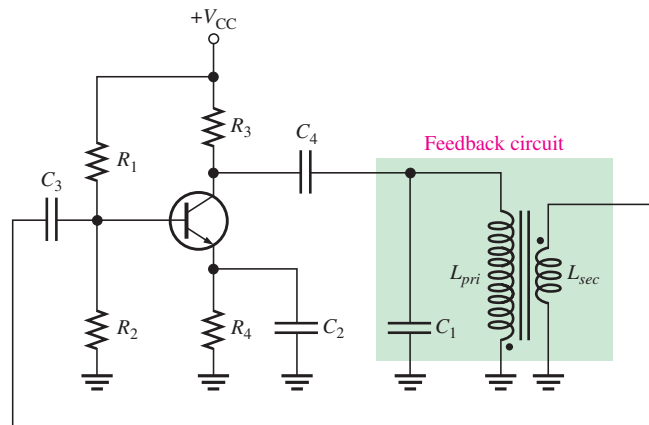

FIGURE 16–24
Related Problem What frequency does the oscillator in Figure 16–21 produce if it is loaded to a point where $Q = 4$?
The Clapp oscillator is a variation of the Colpitts. The basic difference is an additional capacitor, C_3 , in series with the inductor in the resonant feedback circuit, as shown in Figure 16–22. Since C_3 is in series with C_1 and C_2 around the tank circuit, the total capacitance is
► **FIGURE 16–22**
The Hartley oscillator is similar to the Colpitts except that the feedback circuit consists of two series inductors and a parallel capacitor as shown in Figure 16–23.
► **FIGURE 16–23**
This type of LC feedback oscillator uses transformer coupling to feed back a portion of the signal voltage, as shown in Figure 16–24. It is sometimes called a “tickler” oscillator in reference to the transformer secondary or “tickler coil” that provides the feedback to keep the oscillation going. The Armstrong is less common than the Colpitts, Clapp, and Hartley, mainly because of the disadvantage of transformer size and cost. The frequency of oscillation is set by the inductance of the primary winding (L_{pri}) in parallel with C_1 .
Crystals used in electronic applications typically consist of a quartz wafer mounted between two electrodes and enclosed in a protective “can” as shown in Figure 16–25(a) and (b). A schematic symbol for a crystal is shown in Figure 16–25(c), and an equivalent RLC circuit for the crystal appears in Figure 16–25(d). As you can see, the crystal’s equivalent circuit is a series-parallel RLC circuit and can operate in either series resonance or parallel resonance. At the series resonant frequency, the inductive reactance is cancelled by the reactance of C_s . The remaining series resistor, R_s , determines the impedance of the crystal. Parallel resonance occurs when the inductive reactance and the reactance of the parallel capacitance, C_p , are equal. The parallel resonant frequency is usually at least 1 kHz higher
A Practical Triangular-Wave Oscillator One practical implementation of a triangular-wave oscillator utilizes an op-amp comparator with hysteresis to perform the switching function, as shown in Figure 16–28. The operation is as follows. To begin, assume that the output voltage of the comparator is at its maximum negative level. This output is connected to the inverting input of the integrator through R_1 , producing a positive-going ramp on the output of the integrator. When the ramp voltage reaches the upper trigger point (UTP), the comparator switches to its maximum positive level. This positive level causes the integrator ramp to change to a negative-going direction. The ramp continues in this direction until the lower trigger point (LTP) of the comparator is reached. At this point, the comparator output switches back to the maximum negative level and the cycle repeats. This action is illustrated in Figure 16–29.
► **FIGURE 16–28**
► **FIGURE 16–29**
Waveforms for the circuit in Figure 16–28.
Since the comparator produces a square-wave output, the circuit in Figure 16–28 can be used as both a triangular-wave oscillator and a square-wave oscillator. Devices of this type are commonly known as **function generators** because they produce more than one output function. The output amplitude of the square wave is set by the output swing of the comparator, and the resistors R_2 and R_3 set the amplitude of the triangular output by establishing the UTP and LTP voltages according to the following formulas:
Determine the frequency of oscillation of the circuit in Figure 16–30. To what value must R_1 be changed to make the frequency 20 kHz?
► **FIGURE 16–30**
Related Problem What is the amplitude of the triangular wave in Figure 16–30 if the comparator output is $\pm 10\text{ V}$?
The **voltage-controlled oscillator (VCO)** is a relaxation oscillator whose frequency can be changed by a variable dc control voltage. VCOs can be either sinusoidal or nonsinusoidal. One way to build a sawtooth VCO is with an op-amp integrator that uses a switching device (PUT) in parallel with the feedback capacitor to terminate each ramp at a prescribed level and effectively “reset” the circuit. Figure 16–31(a) shows the implementation.